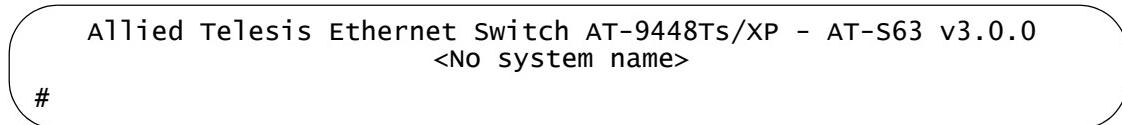

Figure 20. CLI Prompt
6. The local management session starts and the command line interface (CLI) prompt is displayed, as shown in Figure 20.